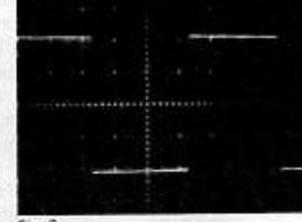

Fig. 6.
- Fig 6. 1kHz squarewave, 8 ohms.
Fig 6. Half power squarewaves. (a) 1kHz/eight ohms. (b) 20kHz/eight ohms, which is adjusted relative to graticule to show rise-time. Sweep 10µsec./div hence rise-time circa 4.5µsec., which is mildly affected by setting of volume control. (c) 10kHz/eight ohms in parallel with 2µF, showing overshoot. (d) 40Hz/eight ohms, indicating good low-frequency performance.